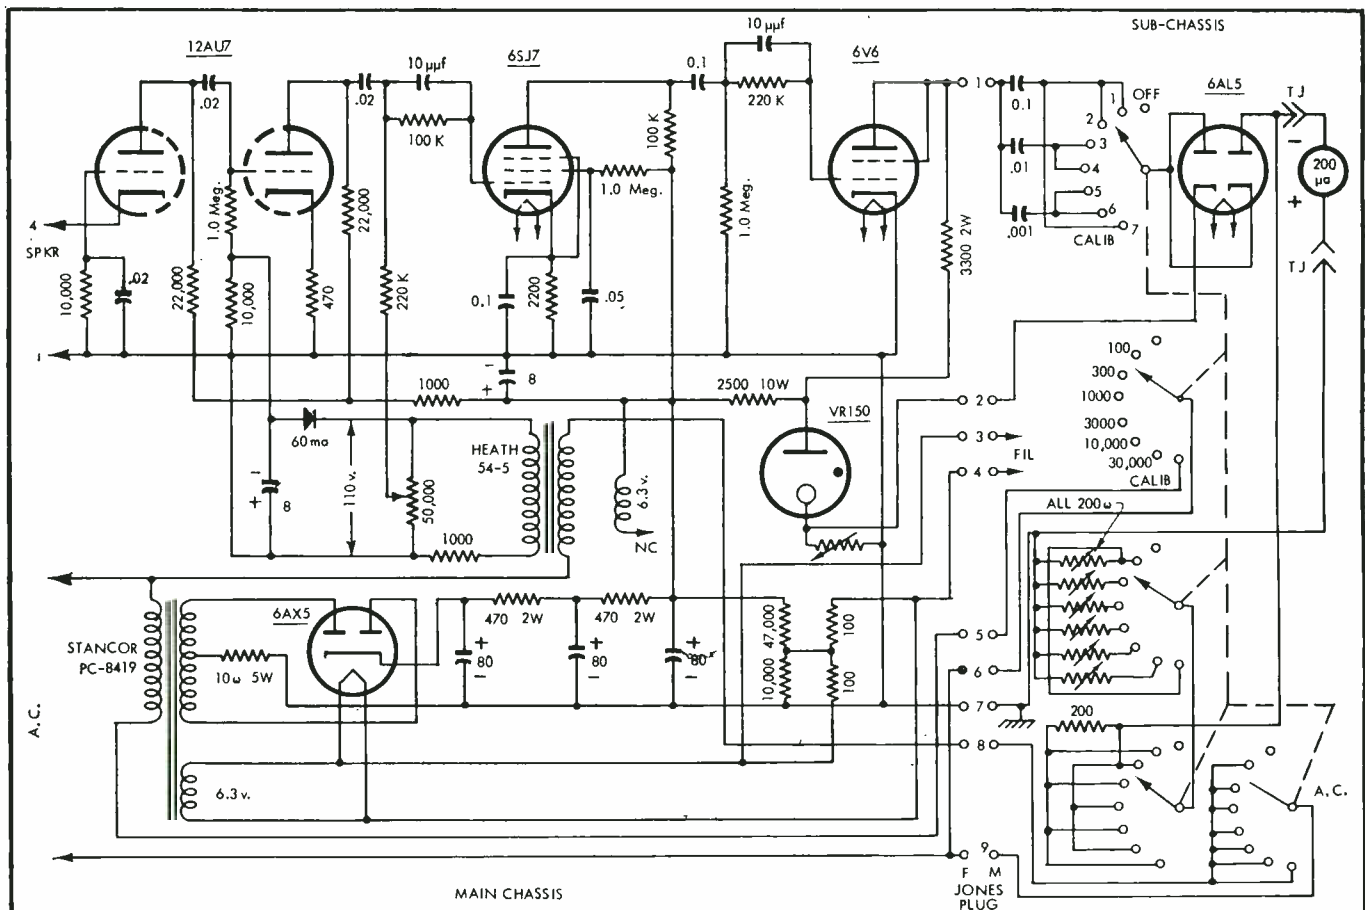
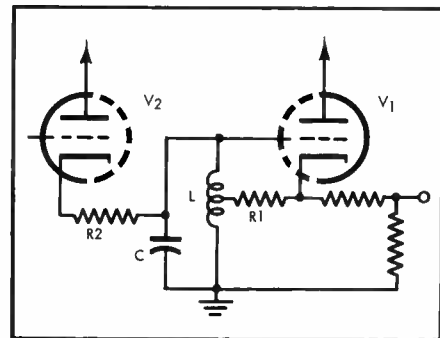

Fig. 4. Schematic of audio-frequency meter.
Fig. 5. The spare triode V_2 in the 12AT7 bulb is used for keying.
as to lower the minimum voltage to which it will respond dependably; the inclusion of a calibration check position on the range switch, to permit instantaneous operation checks if desired; and by elimination of all frequency ranges above 30,000 cps. (I can't hear that high, and the speaker will not respond well at such high frequencies). The circuit is shown in Fig. 4.
In the circuit shown in Fig. 4 the cathode of the cathode follower is returned, not to ground but to the center point of the coil. I have left out the switch which appears in Fig. 2, and added a resistor R which represents the losses in the tuned circuit. Now L will act as a transformer and will give a value of impedance from A to ground of $R/4$. If we have for some reason undisclosed an alternating voltage of V between cathode and ground we shall get $[\frac{1}{4}R/(R_1 + R/4)]V$ between A and ground and as a result of the transformer effect $2[\frac{1}{4}R/4(R_1 + R/4)]V$ between grid and ground.
come neatly packed in pairs in a single bottle. The second triode is most conveniently used to start and stop the oscillations and the circuit takes the form shown in Fig. 5. The way this circuit works must now be examined. To begin with the grid of V_2 is held at ground potential so that V_2 is conducting. Provided that R_2 is not too large, the combination of R_2 and the tube is sufficient to dump down the tuned circuit and prevent it oscillating steadily. When R_1 has been adjusted correctly this will certainly be true. The tube current, of course, flows to ground through L , which should have as low a resistance as convenient: there will then be practically no (d.c.) voltage across C . Suddenly the grid of V_2 is driven hard negative. V_2 no longer conducts and the circuit has become that shown
in Fig. 4 except for one detail: L is carrying current. This is the situation discussed in connection with Fig. 3, and all that V_1 should do is cancel out the effect of the loss in the tuned circuit. The circuit shown in Fig. 5 will therefore produce the waveform shown at (A) in Fig. 1, provided that it is correctly adjusted. This adjustment comes in two parts and must be done with an oscilloscope. The first stage is to disconnect R_2 , so that we just have the simple oscillator circuit of Fig. 4. With the variable R_1 at maximum, connect the oscilloscope to the cathode of V_1 and reduce R_1 until the circuit starts to oscillate. Adjust C until you have about the right frequency: all this is the old "how to make an oscillator" story which I do not need to write out in detail. Now adjust R_1 again so that the oscillations are stable in amplitude, keeping R_1 as high as possible. Make a note of the actual amplitude on the oscilloscope.